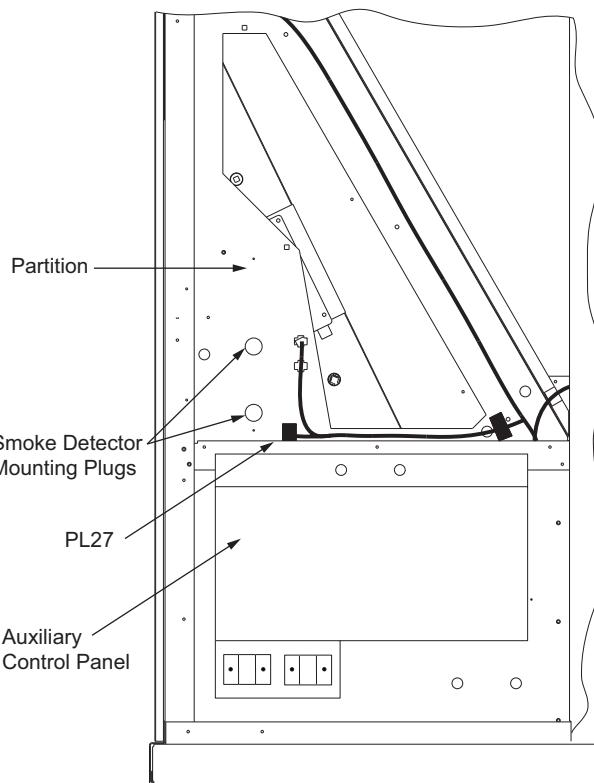
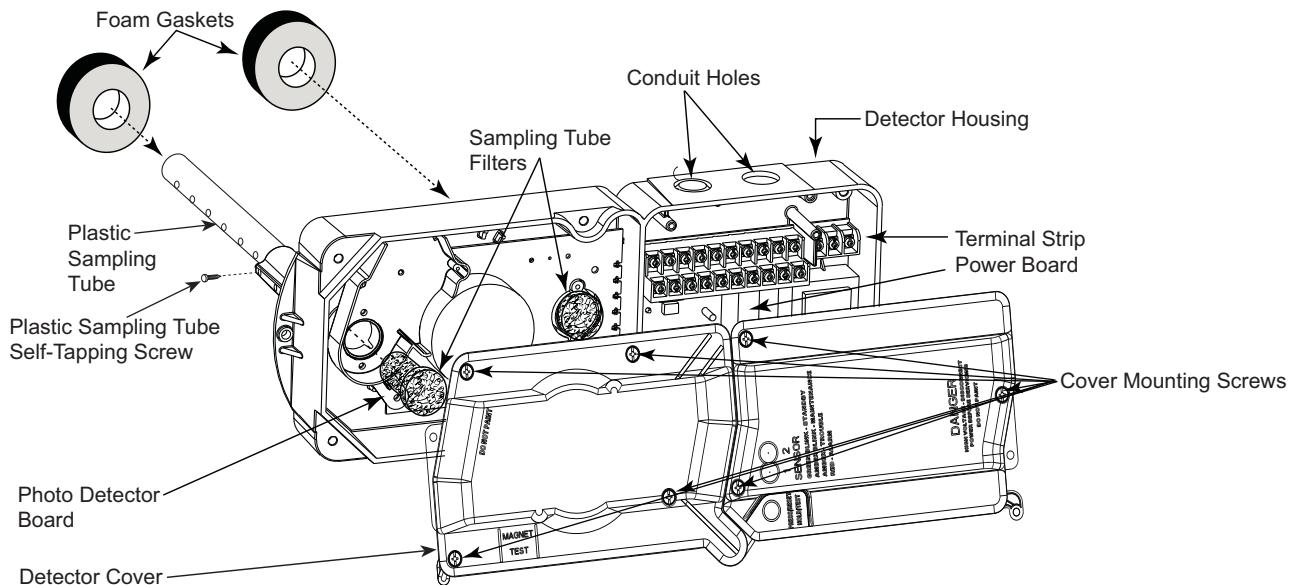

Fig. 1 — Smoke Detector Mounting Location (20-60 Ton Units)
Fig. 2 — Smoke Detector
Table 1 lists the accessory package contents and unit usage. See Fig. 1 for the smoke detector mounting locations. See Fig. 2 for smoke detector parts and components.
2. Find the 2 plugs located in the partition above the control box, remove and discard. Refer to Fig. 1 for plugs and mounting location details.
3. Remove cover from smoke detector. The screws will remain captured in the cover. Refer to Fig. 2 for smoke detector cover and other part locations.
4. Place foam gaskets over each sampling tube on smoke detector. Refer to Fig. 2 for foam gasket locations.
8. Insert tube end plug into sampling tube and slide sampling tube into bottom hole of smoke detector. Refer to Fig. 2 for sampling tube installation location.
17. Return to auxiliary control box section and insert sampling tube filters into both sampling tube holders. Refer to Fig. 2 and 4 for sampling tube locations.